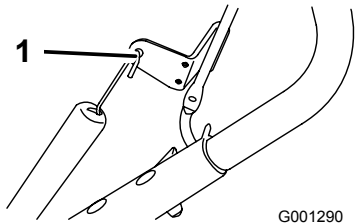

Figure 24
1. Unhook the end of the control cable spring from the control bar (Figure 24).